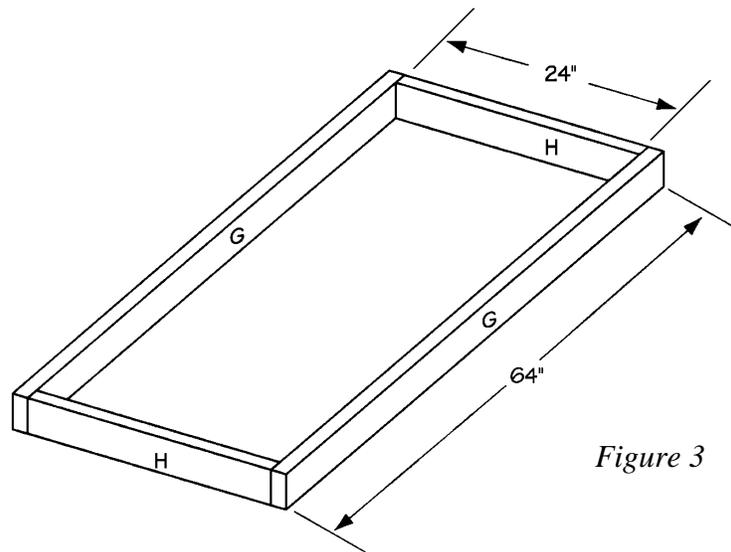
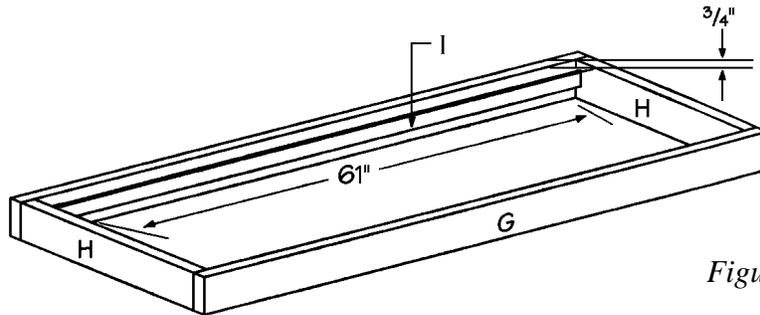
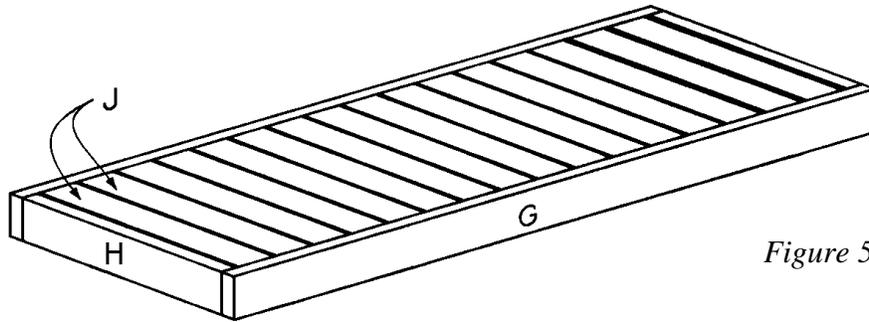

Figure 3
Figure 4
Figure 5
1. Cut two long bench supports (G) from 2 x 4 pine, each measuring 64" long.
2. Cut two short bench supports (H) from 2 x 4 pine, each measuring 24" long.
3. Place the two long bench supports (G) on a level surface, parallel to each other, and 24 inches apart. Fit the two short bench supports (H) between the two long bench supports (G), as shown in *Figure 3*. Screw through the long bench supports (G) into the ends of the short bench supports (H). Use two 2-1/2"-long screws on each of the joints.
4. Cut two inner supports (I) from 1 x 2 pine, each measuring 61 inches long.
5. Apply glue to the meeting surfaces, and screw one inner support (I) to the inner side of one long bench support (G), 3/4-inch from the top edge, as shown in *Figure 4*. Use 1-1/2"-long screws about every 5 inches.
6. Repeat Step 5 to attach the other inner support (I) to the opposite long bench support (G).
7. Cut 16 bench slats (J) from 1 x 4 pine, each measuring 24 inches long.
8. Fit the 16 bench slats (J) over the two inner supports (I), leaving approximately 1/4-inch between bench slats (J), as shown in *Figure 5*. When you are satisfied with the placement, wipe glue on the meeting surfaces, and nail each slat in place. Nail through the bench slats (J) into the inner supports (I), using two 1-1/2-inch-long nails on each joint.
9. Place the back assembly with attached side assemblies on its back. Fit the bench assembly inside, 14 inches from the lower edge of the verticals (A). Apply glue to the meeting surfaces,
1. Cut two long top supports (K) from 2 x 4 pine, each measuring 64 inches long.
2. Cut two short top supports (L) from 2 x 4 pine, each measuring 24 inches long.
3. Place the two long top supports (K) on a level surface, parallel to each other and 24 inches apart, similar to the arrangement shown in *Figure 3*. Apply glue to the meeting surfaces, and fit the two short top supports (L) between the two long top supports (K). Screw through the long top supports (K) into the ends of the short top supports (L) using two 2-1/2"-long screws on each joint.
5. Cut a top panel (M) from lattice, measuring 62-1/2 x 25-1/2 inches.
6. Apply glue to the meeting surfaces, and fit the top panel (M) into the routed groove in the top assembly. Nail through the top panel (M) into the long top supports (K) and short top supports (L) using 1-1/2" finishing nails.
7. Place the back assembly, with attached side and bench assemblies, on its back. Fit the top assembly inside, flush with the top edge of the verticals (A). Apply glue to the meeting surfaces, and pre-drill holes for 3-inch lag bolts through the front verticals into the ends of the long top supports (K). Insert the lag bolts and tighten them securely.
8. Repeat the procedure to insert two more lag bolts through the verticals (A) into the ends of the remaining long top supports (K).